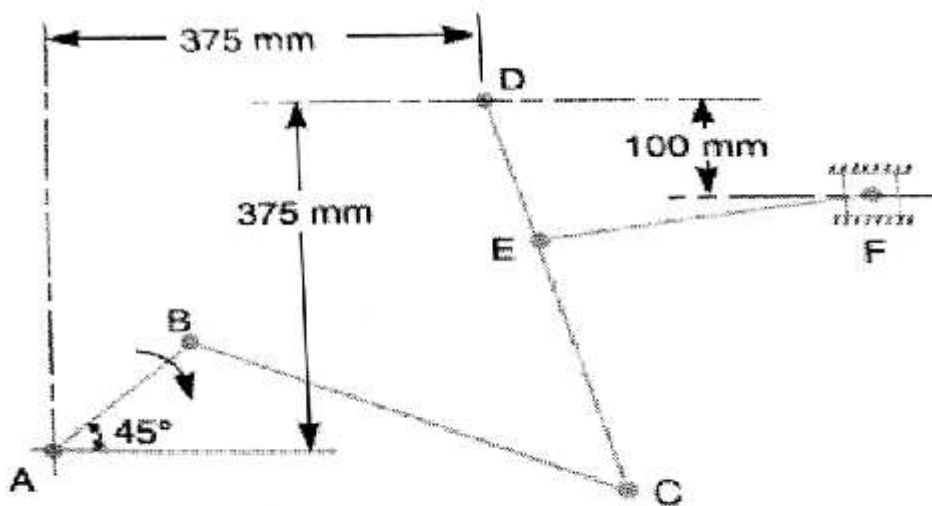

Fig.1
Q.2 The mechanism, as shown in Fig.1 has the dimensions of various links as follows : $AB = DE = 150$ mm, $BC = CD = 450$ mm; $EF = 375$ mm. The crank AB makes an angle of 45° with the horizontal and rotates about A in the clockwise direction at a uniform speed of 120 r.p.m. The lever DC oscillates about the fixed point D , which is connected to AB by the coupler BC . The block F moves in the horizontal guides, being driven by the link EF . 15